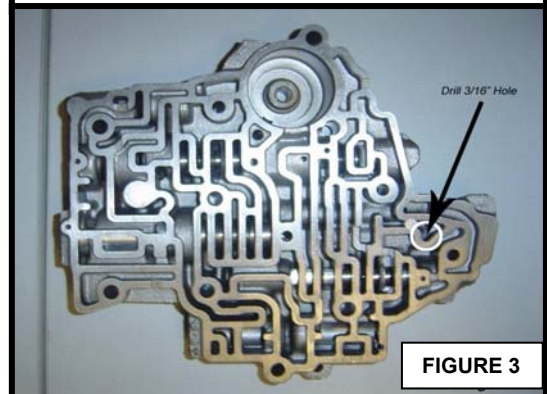

FIGURE 3
5. The intermediate clutch pack can be replaced by COA-22883 hub. If using an intermediate clutch pack, drill a 3/16" hole in the valve body intersecting the original governor feed passage as shown in (Figure 3)